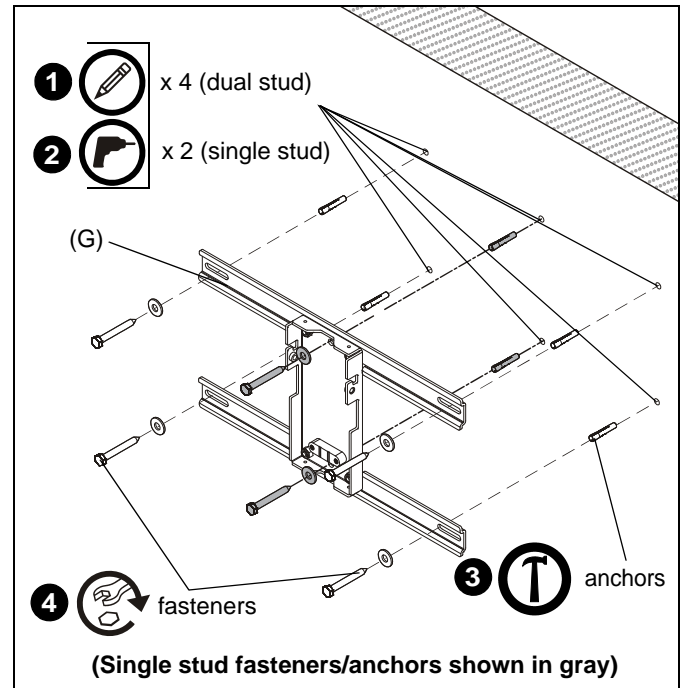

Figure 2
1. Using wall plate/bracket assembly, mark four mounting holes (dual stud), or two mounting holes (single stud) in wall plate. (See Figure 2)
2. Drill one 3/8" hole at one of the marked locations in wall. (See Figure 2)
3. Install either one Fischer UX 10 x 60 anchor [Part number 077871] (not included) or one Hilti HUD-L 10x70 anchor (not included) into one of the drilled holes. (See Figure 2)
4. Install one Grade 2 or better 5/16 x 2-1/2" hex head lag screw (not included) through one Grade 2 or better 5/16" washer (not included), one mounting hole in wall bracket and into one Fischer or Hilti anchor (not included). (See Figure 2)